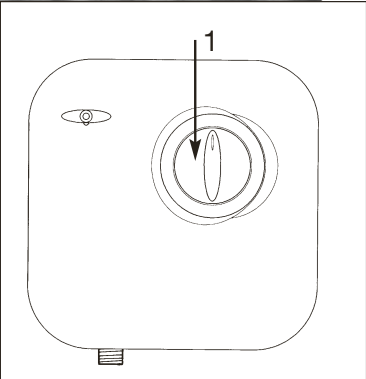

Fig 9 - 1000XM
- To switch the shower on, turn the control knob (1) anti-clockwise. Water will flow from the handset. Fig 9.
- Rotating the control knob (1) anti-clockwise from the off position will gradually increase the showering temperature.